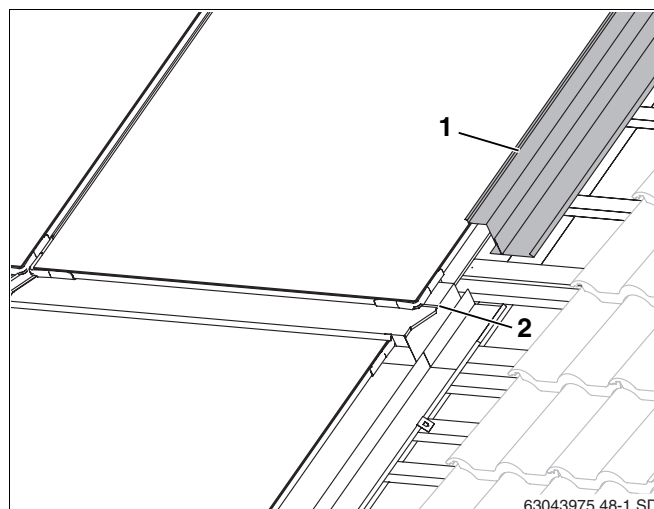

Fig. 55 Upper right facing panel
- ▶ Fit the upper side facing panels (Fig. 55, **Item 1**) in the same way as the lower ones (Chapter 10.2 "Side facing panels").
- ▶ Push the side facing panels over the panel fold in the middle panels (Fig. 55, **Item 2**).